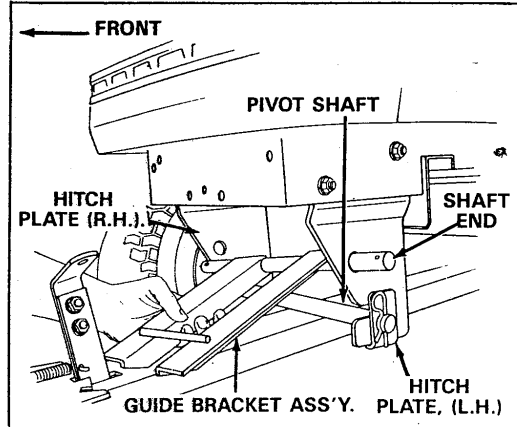

FIGURE 16
- Assemble guide bracket assembly **shaft end** into the left hand hitch plate. See figure 16. Slide guide assembly back to the right and into hole of the right hand hitch plate. Secure with a $1/8''$ (large) hairpin cotter in each end. See figure 17. Lower front end of guide bracket assembly to straddle channel assembly.